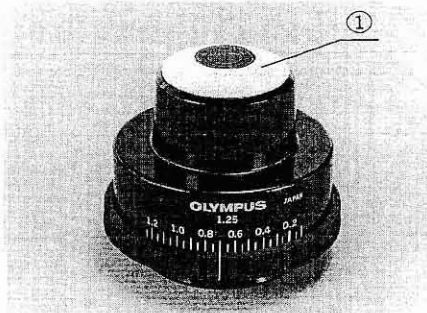

Fig. 8
The white cover for condenser ① should be covered over the condenser. (Fig. 8)